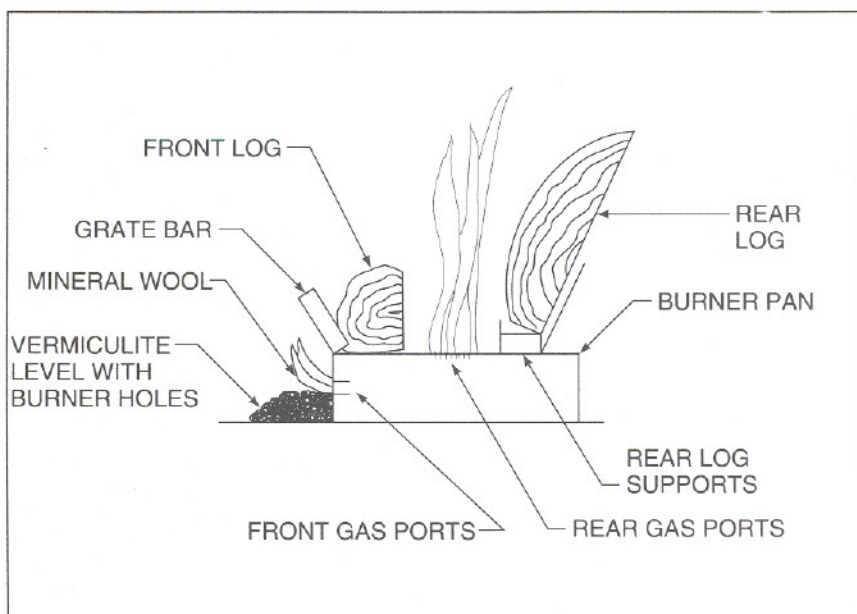

Figure 9
Remove the (4) logs from carton and place as shown in Figure 9 (page 7). Log placement is critical to the appearance of the flame.
Spread vermiculite between the front of the burner pan and the vermiculite retainer. Level of vermiculite should be up to the bottom of gas ports (holes) in front edge of burner. Place mineral wool over the gas ports. See Figure 9.
Visually check the flame of the burner periodically, making sure the flames are steady; not lifting or floating. The flame color should be blue with yellow tips. The ends of the flame sensor should be covered with flame. See Figure 8A for EZ/EZL or 8B for EZE/EZLE and Figure 9.